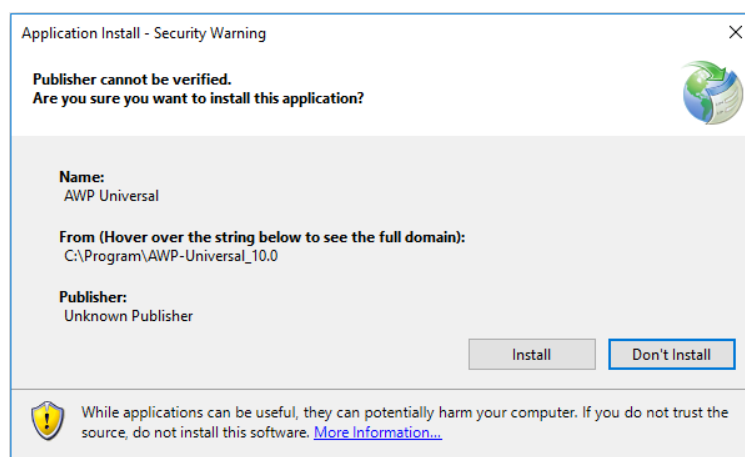

Figure 2.52 – Installing AWP Universal
9. Install the program to work with the device. For this, run the setup.exe file of the program installation and click the <INSTALL> button (Figure 2.52).